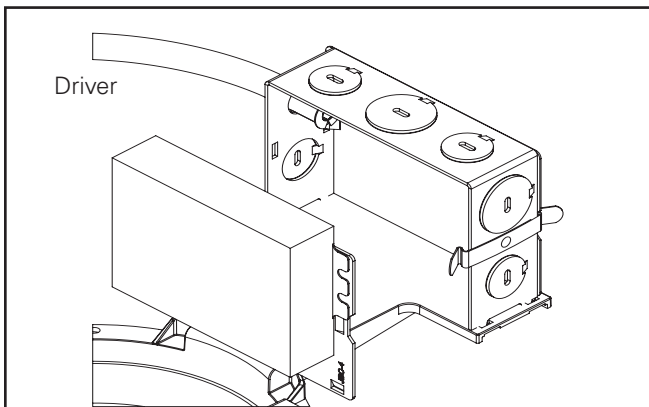

Figure 42
2. Remove the driver and junction box cover assembly. (Figure 42).